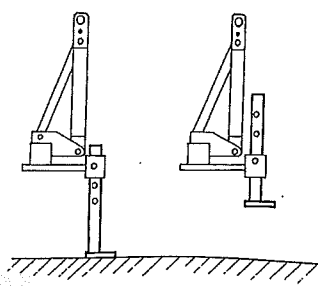

FIG. 6
- 9.6 - If applicable, position the support foot as shown in fig. 6.